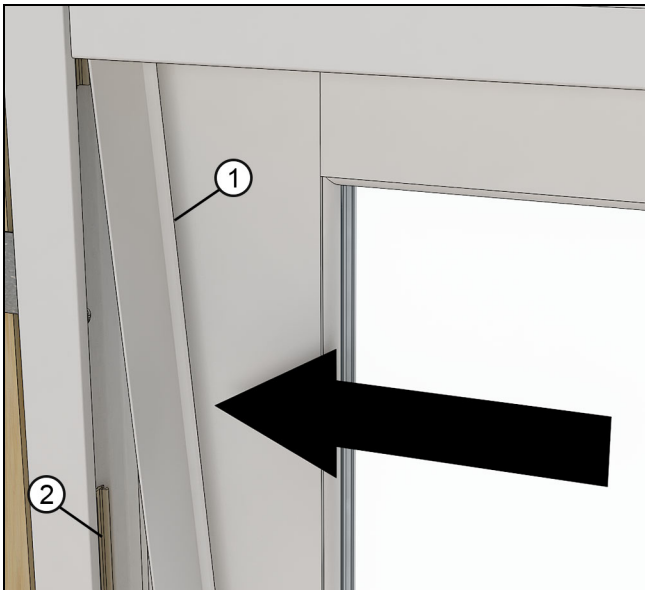

Figure 8
5. Painted Units Only: Snap interior jamb cover onto jamb cover bases stapled to the stationary jamb. Make sure cover is fully seated into channel. See Figure 8.